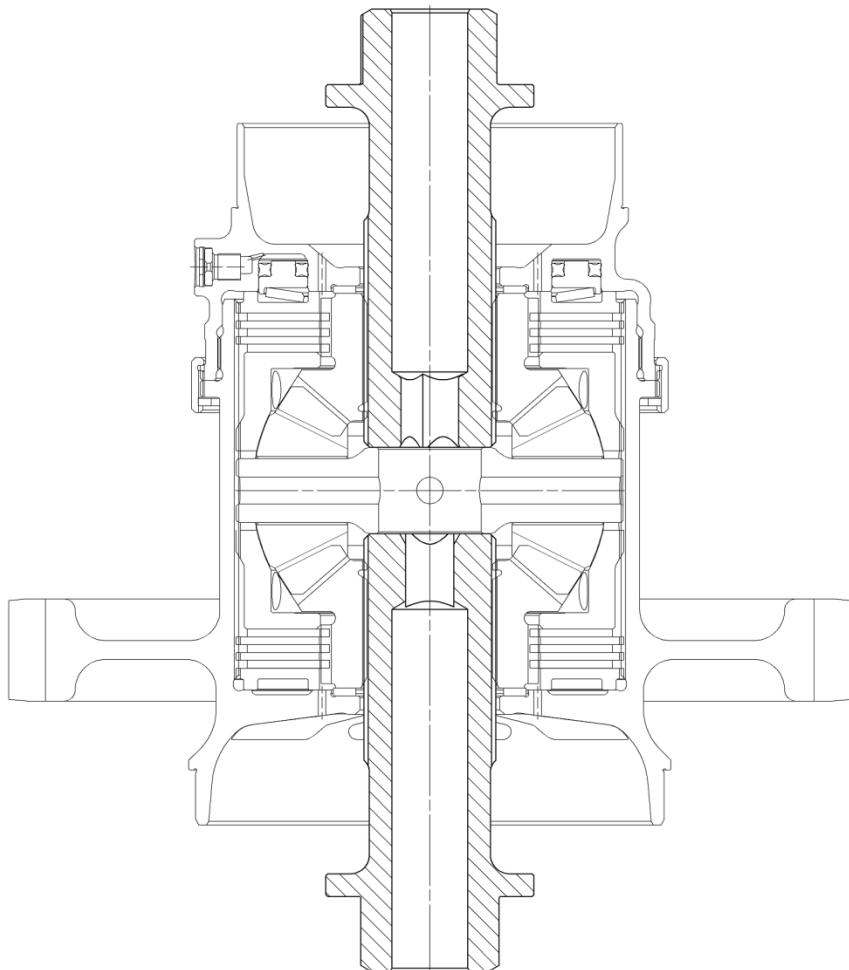

Figure 11 – Measuring the preload
1. Preload is checked with the complete diff assembled on the preload setting tool 233-499-004A and securely mounted in a vice. See Figure 11 & drawing 1324-999-001B